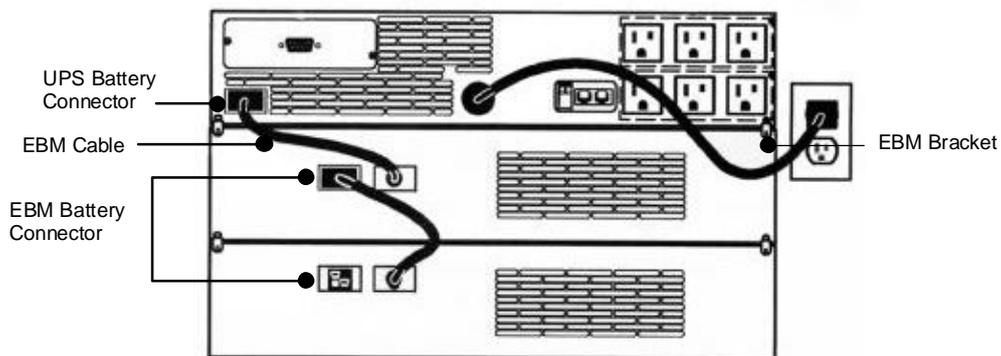

Figure 16 EBM Connections(100V Type)
4. Plug the new EBM into the UPS as shown in Figure 16.